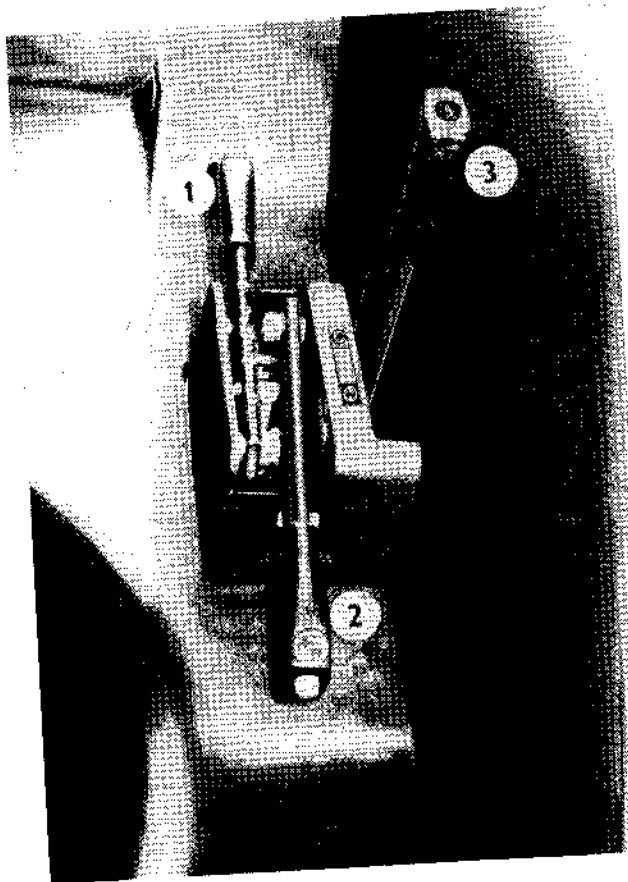

Fig. 19
6. PTO shaft clutch hand disengagement lever (Fig. 19/1).
11. Single-axle trailer hitch disengagement lever (Fig. 19/3).
12. Hand (parking) brake lever (Fig. 19/2).